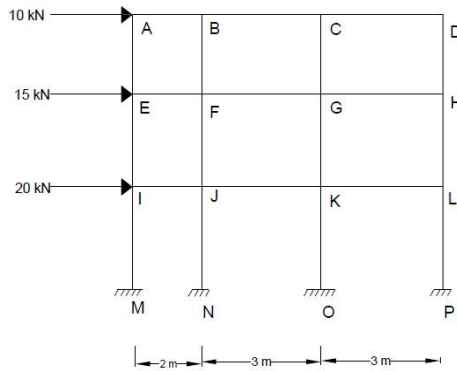

Fig.10
8. For the multi storey frame shown in the Fig.10, determine all the column-end and beam-end moments due to lateral loads as shown. The storey heights are 4 m. each. Analyse the frame using Portal method. Also show a separate diagram showing the B. M. D. of all the beams and columns subjected to these lateral loads.